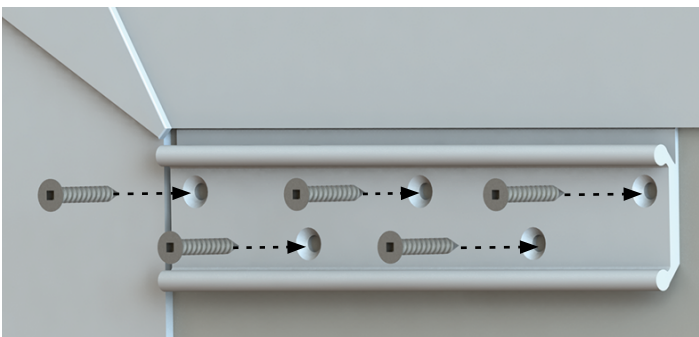

Fig.10
3. Fasten the mounting bracket to the slide-out exterior wall using the five provided #10 -13 x 1 1/4" recessed square head screws (Fig.10).